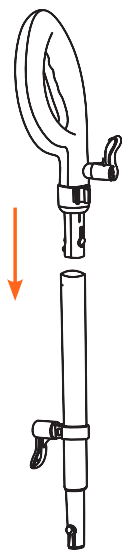

Figure 1
STEP 1: Insert the handle into the extension tube until it locks into position (figure 1).